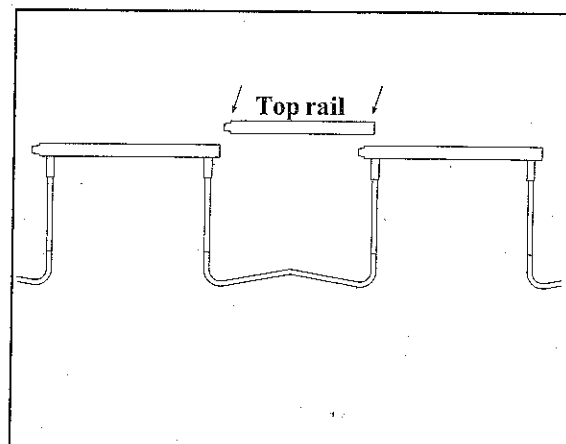

FIGURE 4
Now install the remaining four (4) top rails in the gaps between the four (4) top rails with sockets. Slide each top rail into the joints at both ends of the gap (See Fig. 4). **This completes the frame assembly.**